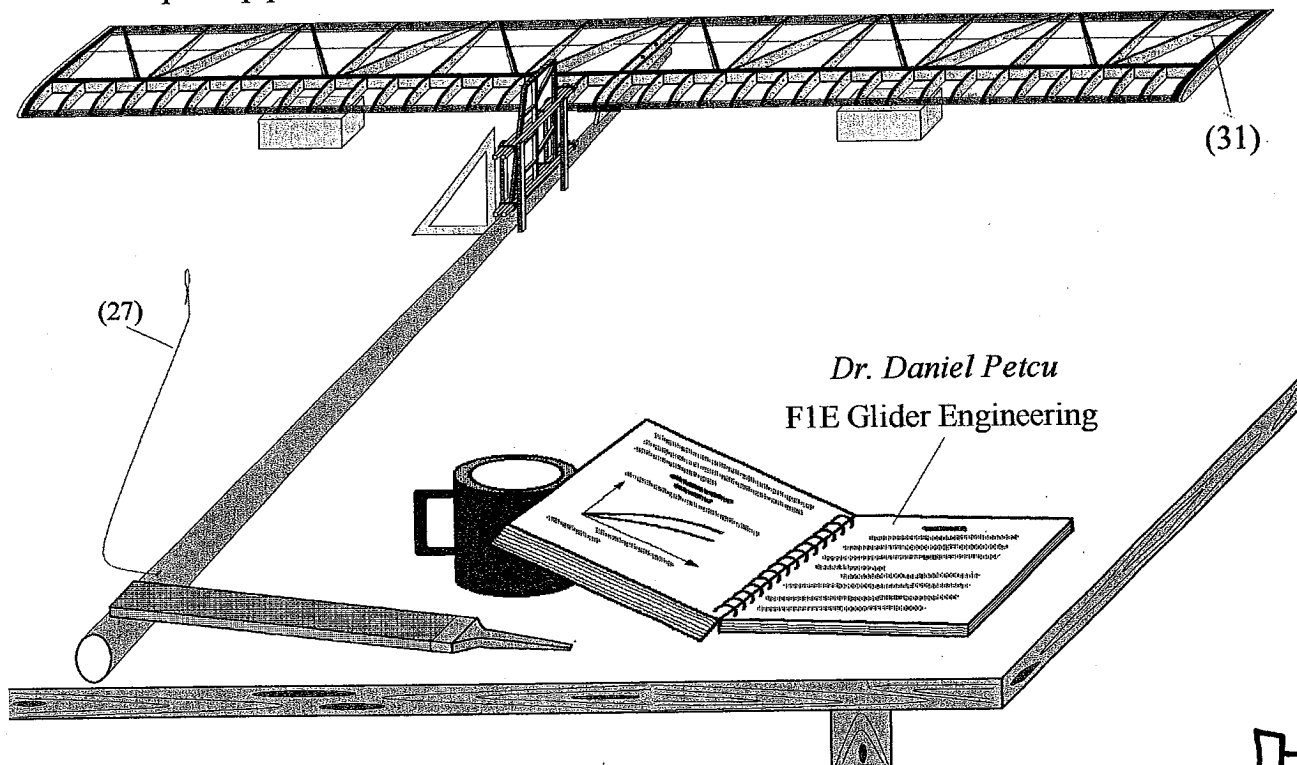

Figure 14. Fin Sticking Procedure
The fin shall be stuck onto the fuselage after the horizontal tail group has been mounted, taking care that a 90° angle (figure 14) should occur between them. Should we introduce through the rib block processing orifices the "inner stormer" made of red thread (31), then the dust pan dedicated to pick up pieces of a model in case of accidents will become absolutely useless.